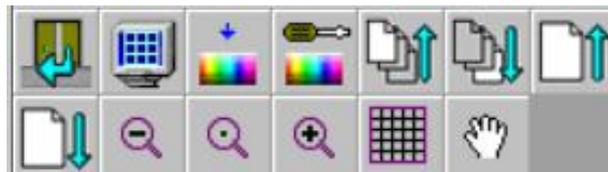

Figure 4-146
4.Color Combination Expert command bar (Figure 4-146):